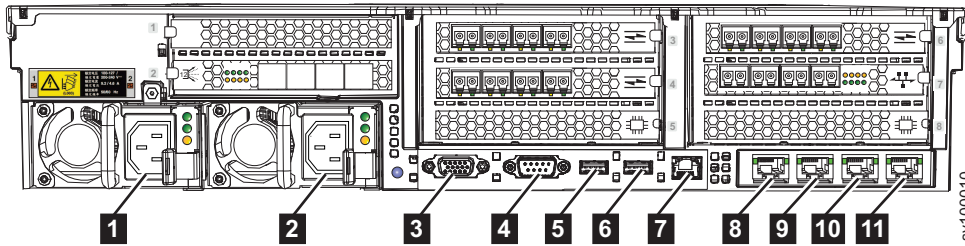

Figure 329. Connectors on the rear of the 2145-SV1 node
2. Remove and label the Ethernet cables that are attached to Ethernet ports 1-3 (**8** , **9** , and **10**), as shown in Figure 329 on page 402.